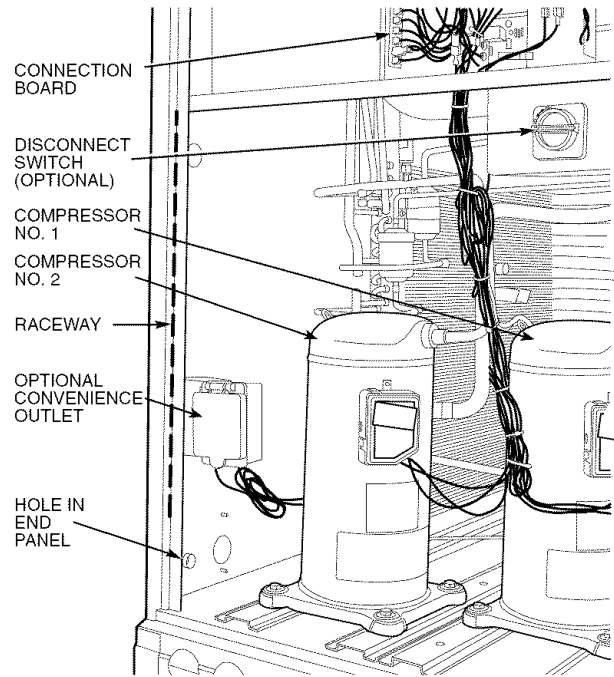

Fig. 9 — Field Control Wiring Raceway
3. Feed wire through the raceway built into the corner post to the 24-v barrier located on the left side of the control box. See Fig. 9. The raceway provides the UL required clearance between the high-voltage and low-voltage wiring.